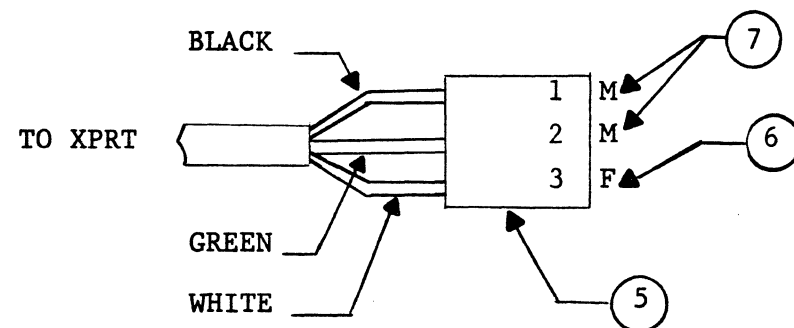

FIGURE 1.2
- 1.2 INSTALL ITEMS 5,6 AND 7 PER FIGURE 1.2.